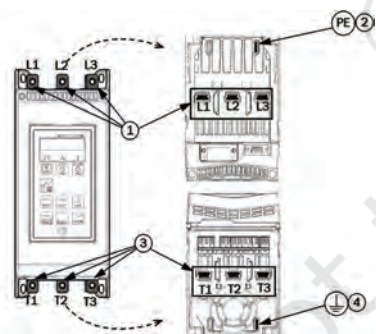

Fig. 7.35: Supply and motor connection
2. Protective earth (PE) connection for mains supply.
4. Motor earth, connection (Fig. 7.35).